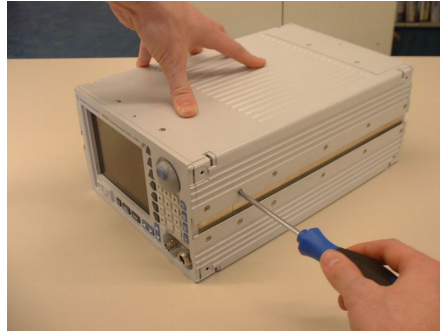

Figure 1-4
1. Undo 12 side screws. (see Figure 1-4).